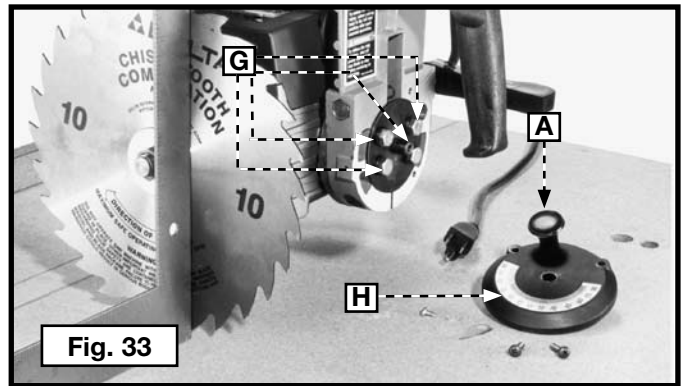

Fig. 33
- Loosen the four hex screws (G) Fig. 33. Tilt the motor until the saw blade is flush with the square. Tighten the four hex screws (G).
- Replace the bevel scale plate (H) Fig. 33 with the bevel index release knob (A), two screws, and pointer that were removed earlier.